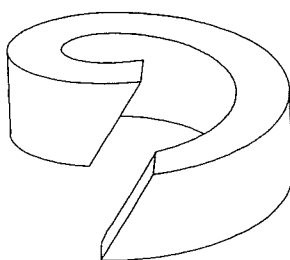

Bild 7: Split packing ring
- When cutting the new packing to length, make sure that the ends are cut with a slant (cf. Fig. 7)